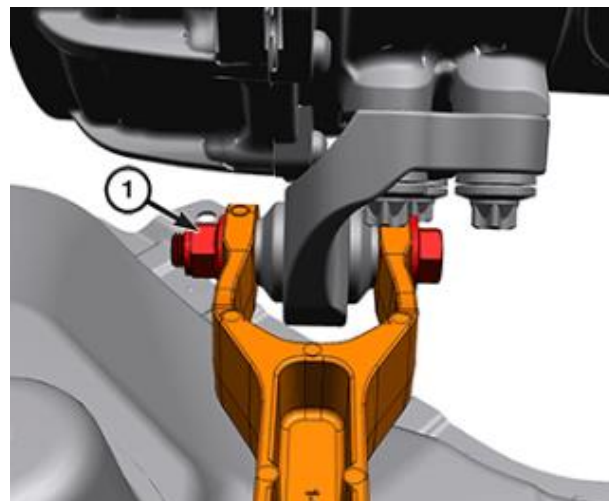

Figure 28 – Rear Isolator to Engine Mount Bracket Bolt and Nut
4. Remove the rear insulator to engine mount bracket through bolt and nut (1) (Figure 28).
16. Install the rear insulator to engine mount bracket through bolt and nut (1) and tighten to 115 N·m (85 ft. lbs.) (Figure 28).